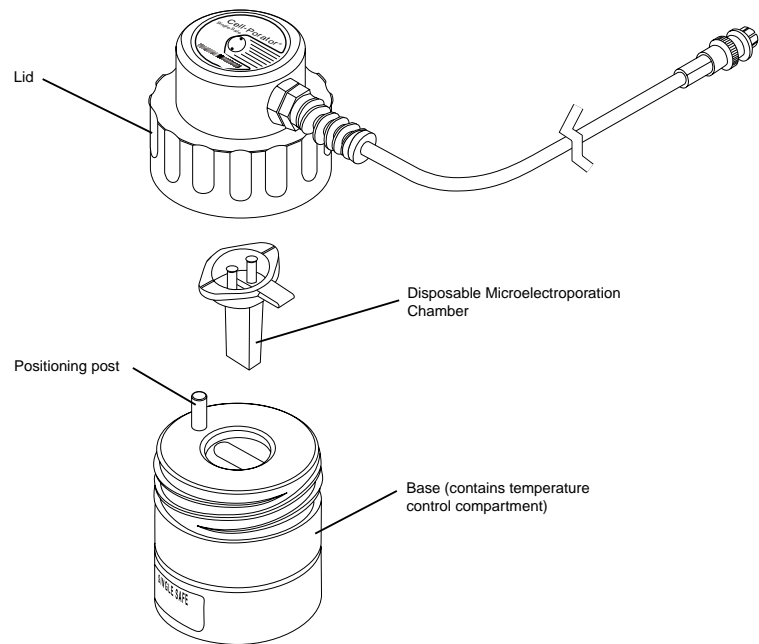

Figure 3. Single Safe and Disposable Microelectroporation Chambers.
Electroporation occurs within the single safe, which contains a slot for one disposable microelectroporation chamber (see figure 3). The lid of the single safe includes a coaxial pulse cable that connects to the high voltage PULSE OUTPUT connector on the *E. coli* Pulsar. The base of the single safe is a thermal mass that may be used to help maintain the desired sample temperature of 4°C for electroporation. Unscrewing the base reveals a temperature control compartment that may be filled with 20 ml of water. The entire base assembly may be kept separately under constant refrigeration at 4°C or on ice and removed to the work area for electroporation. After each disposable microelectroporation chamber is loaded into the base, the lid is oriented for electroporation using the positioning post and electrode rivets. The threaded outer ring that secures the lid in place for electroporation is then tightened.
Radiation-sterilized, individually packaged, disposable microelectroporation chambers (see figure 3) are designed for high transformation efficiencies of *E. coli* and other bacterial samples. These chambers are made of translucent polypropylene and have leak-proof caps to allow mixing of the cell suspension. Each of these chambers contains two integral flat aluminum electrodes, separated by an average distance of 0.15 cm. The two rivets through the cap of each chamber make contact with both the electrodes and the spring-loaded contacts of the single safe lid when the lid is closed.
6. Close the cap of the disposable microelectroporation chamber and gently place the loaded chamber into the single safe base. Orient the single safe lid over the base using the positioning post and electrode rivets (see figure 3). Tighten the threaded outer ring to secure the lid in place for electroporation.